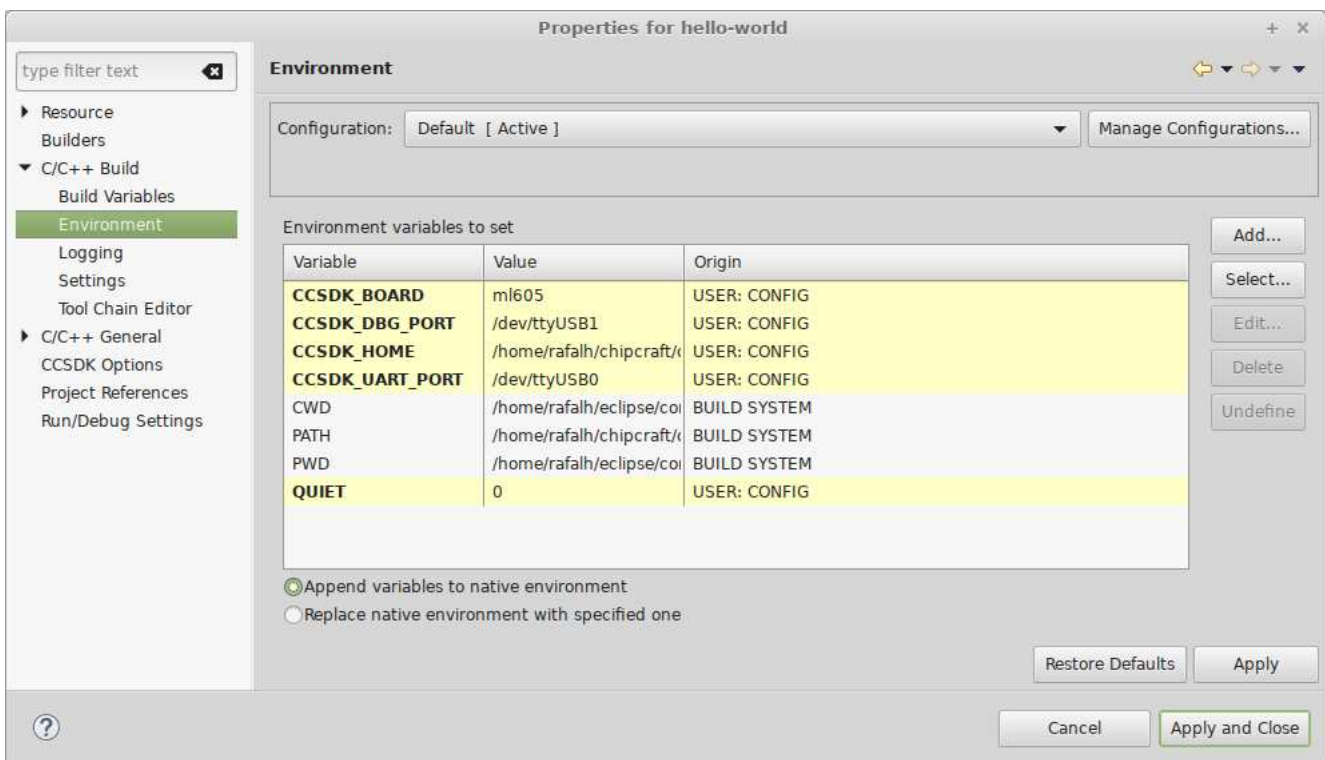

Figure 2.13. Environment variables configuration.
**C/C++ Build -> Environment** page (figure 2.13) allows to set environment variables used during the build process. They are accessible from *Makefile* scope. New Project Wizard configures multiple environment variables starting with `CCSDK_` prefix. They should not be changed nor removed using this page. To change `CCSDK` options use *CCSDK Options* properties page.